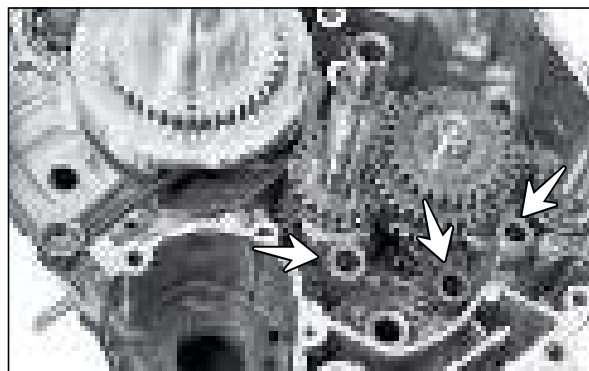

Fig. 3.154
- Take out fork gear shift no.1, fork gear shift no. 2 and fork gear shift high speed from gears. (Fig. 3.154)